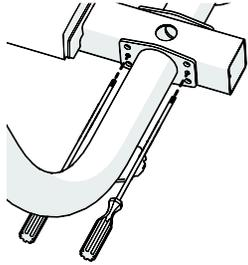

Figure 4
1. Place the two side arm supports against the center support and insert a narrow screwdriver through the middle holes of each side arm and the center support to keep them aligned (see Figure 4).